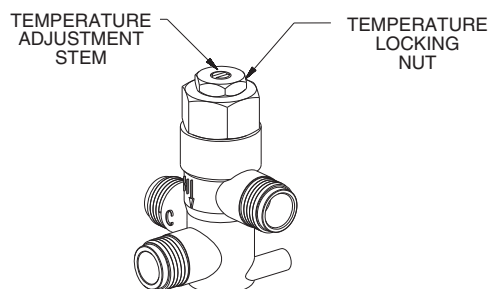

Figure 10
- USING A BLADE SCREWDRIVER, TURN THE ADJUSTMENT STEM COUNTERCLOCKWISE TO INCREASE THE TEMPERATURE OR CLOCKWISE TO DECREASE THE TEMPERATURE (FIGURE 10).